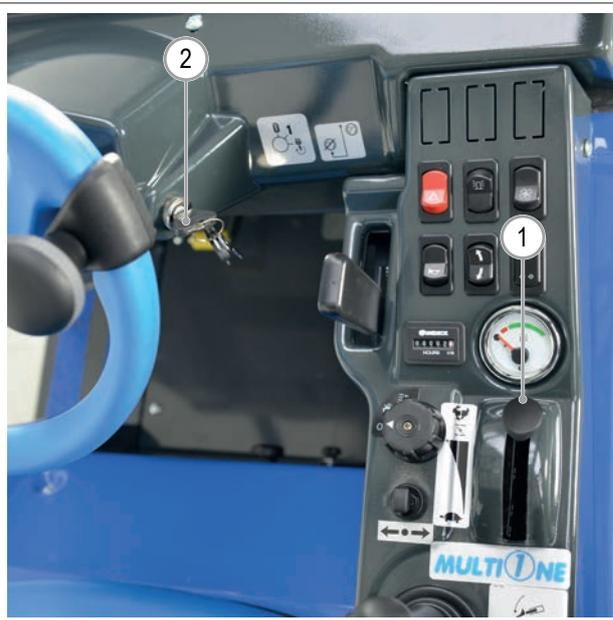

FIG. 20
- 1) Place the accelerator full forward (choke on) (FIG. 20 - Ref. 1).
- 2) Turn the key (FIG. 20 - Ref. 2) in Pos. "2" for two seconds, if the engine does not start, release the key and start from step 1).